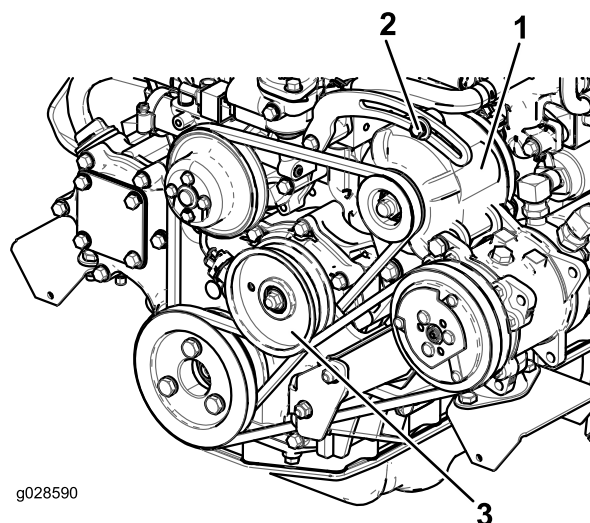

Figure 65
Check the condition and tension of the belt (Figure 65) after every 100 operating hours.
2. If the deflection is not 10 mm (3/8 inch), loosen the alternator mounting bolts (Figure 65). Increase or decrease the alternator belt tension and tighten the bolts. Check the deflection of the belt again to ensure that the tension is correct.